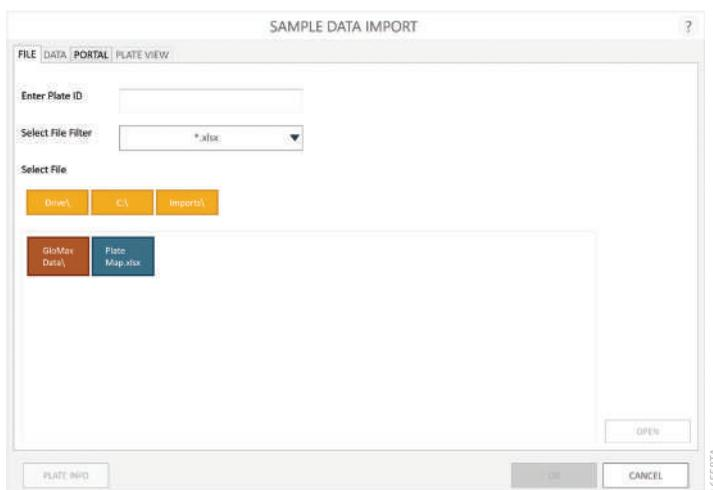

Figure 38. ‘Sample Data Import’ screen. First screen shown when importing a plate map into the GloMax[®] Software.
3. Tap the **Import** button located on the right side of the ‘Protocol-specific’ screen (Figure 37) to display the ‘Sample Data Import’ screen (Figure 38).
4. On the ‘Sample Data Import’ screen (Figure 38) provide the following information: